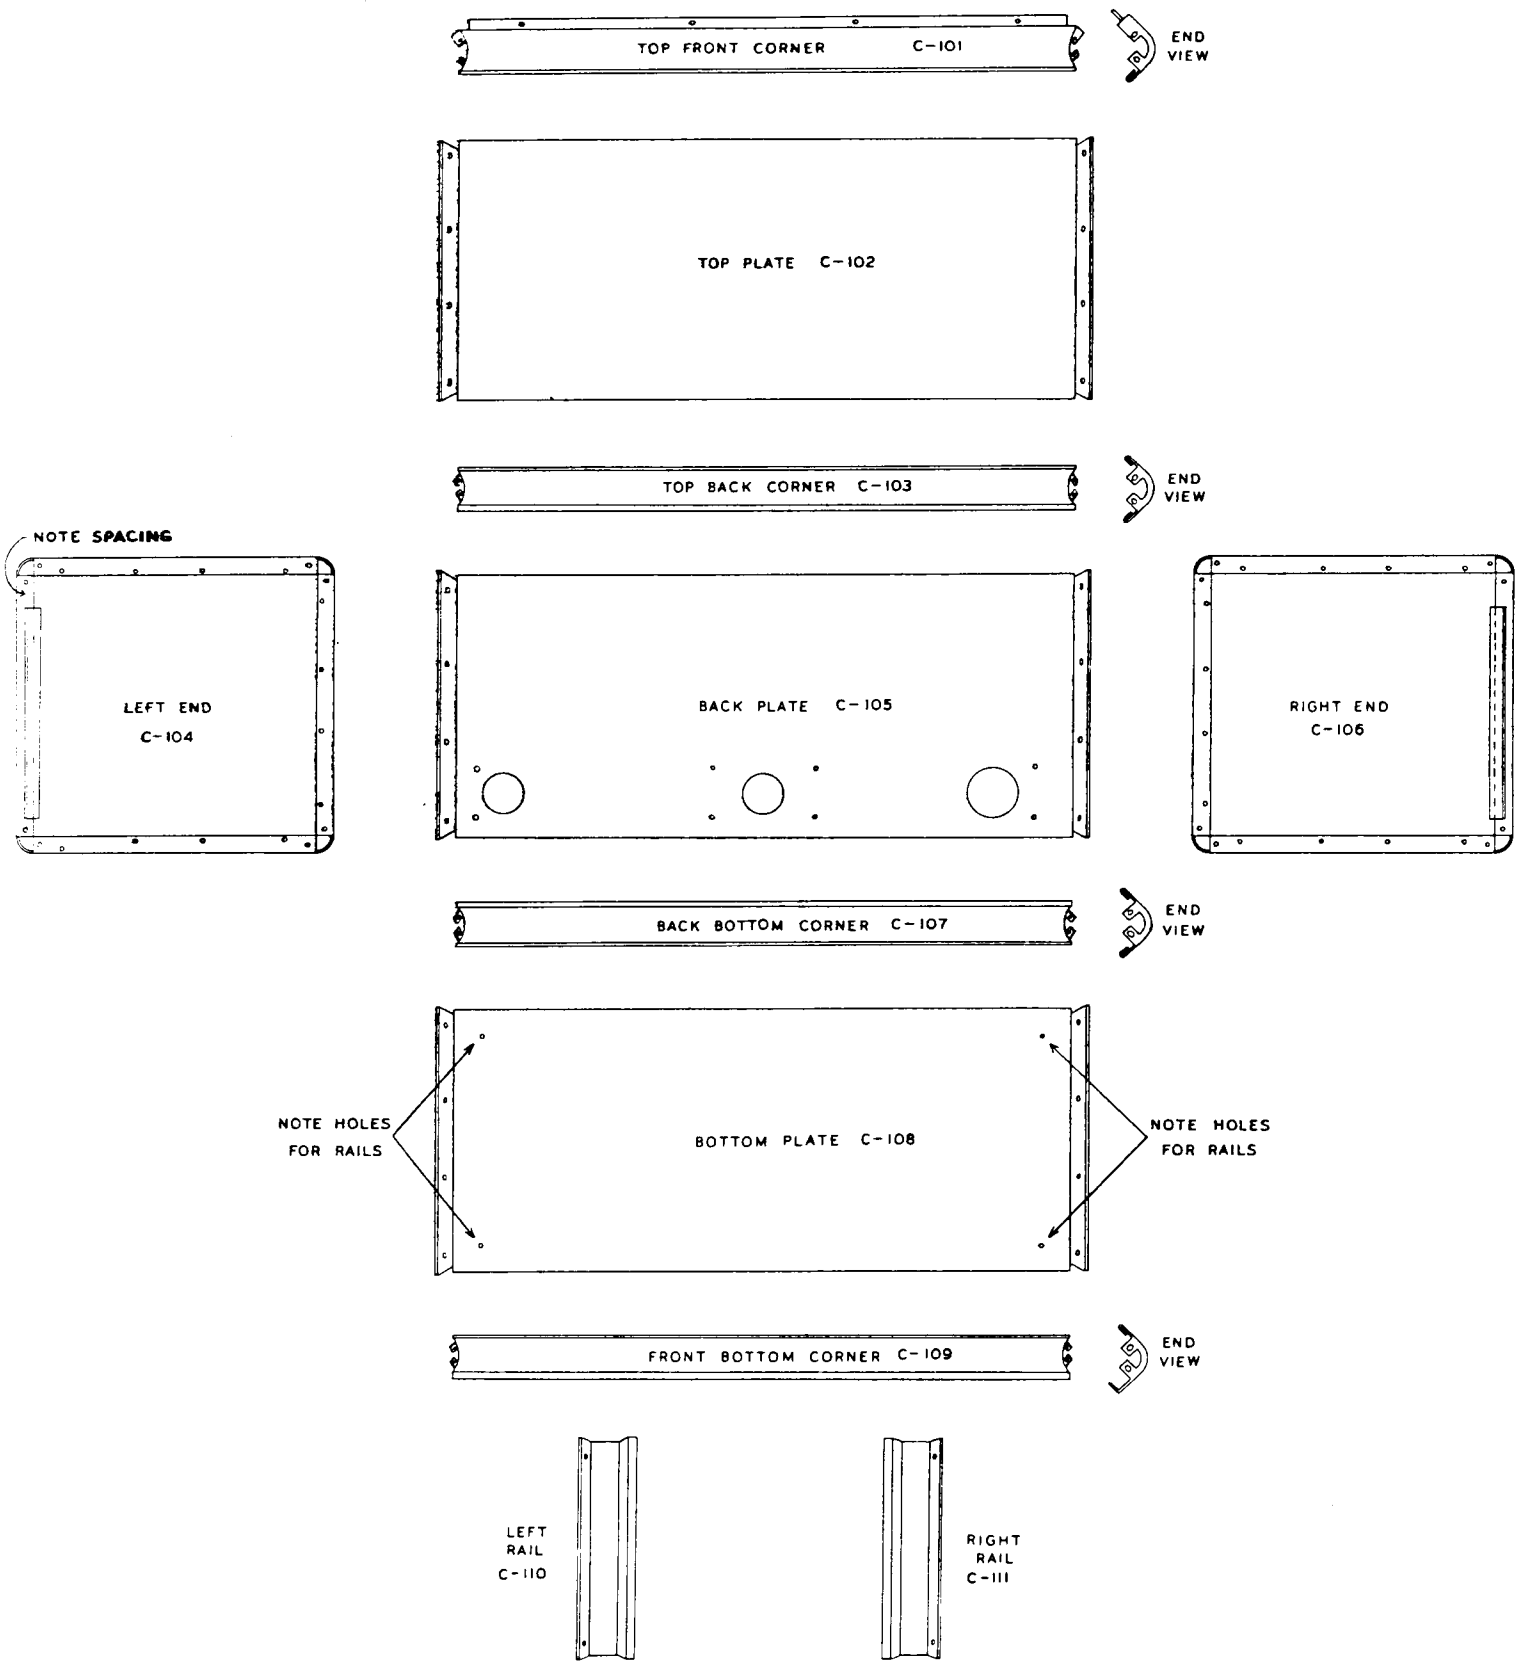
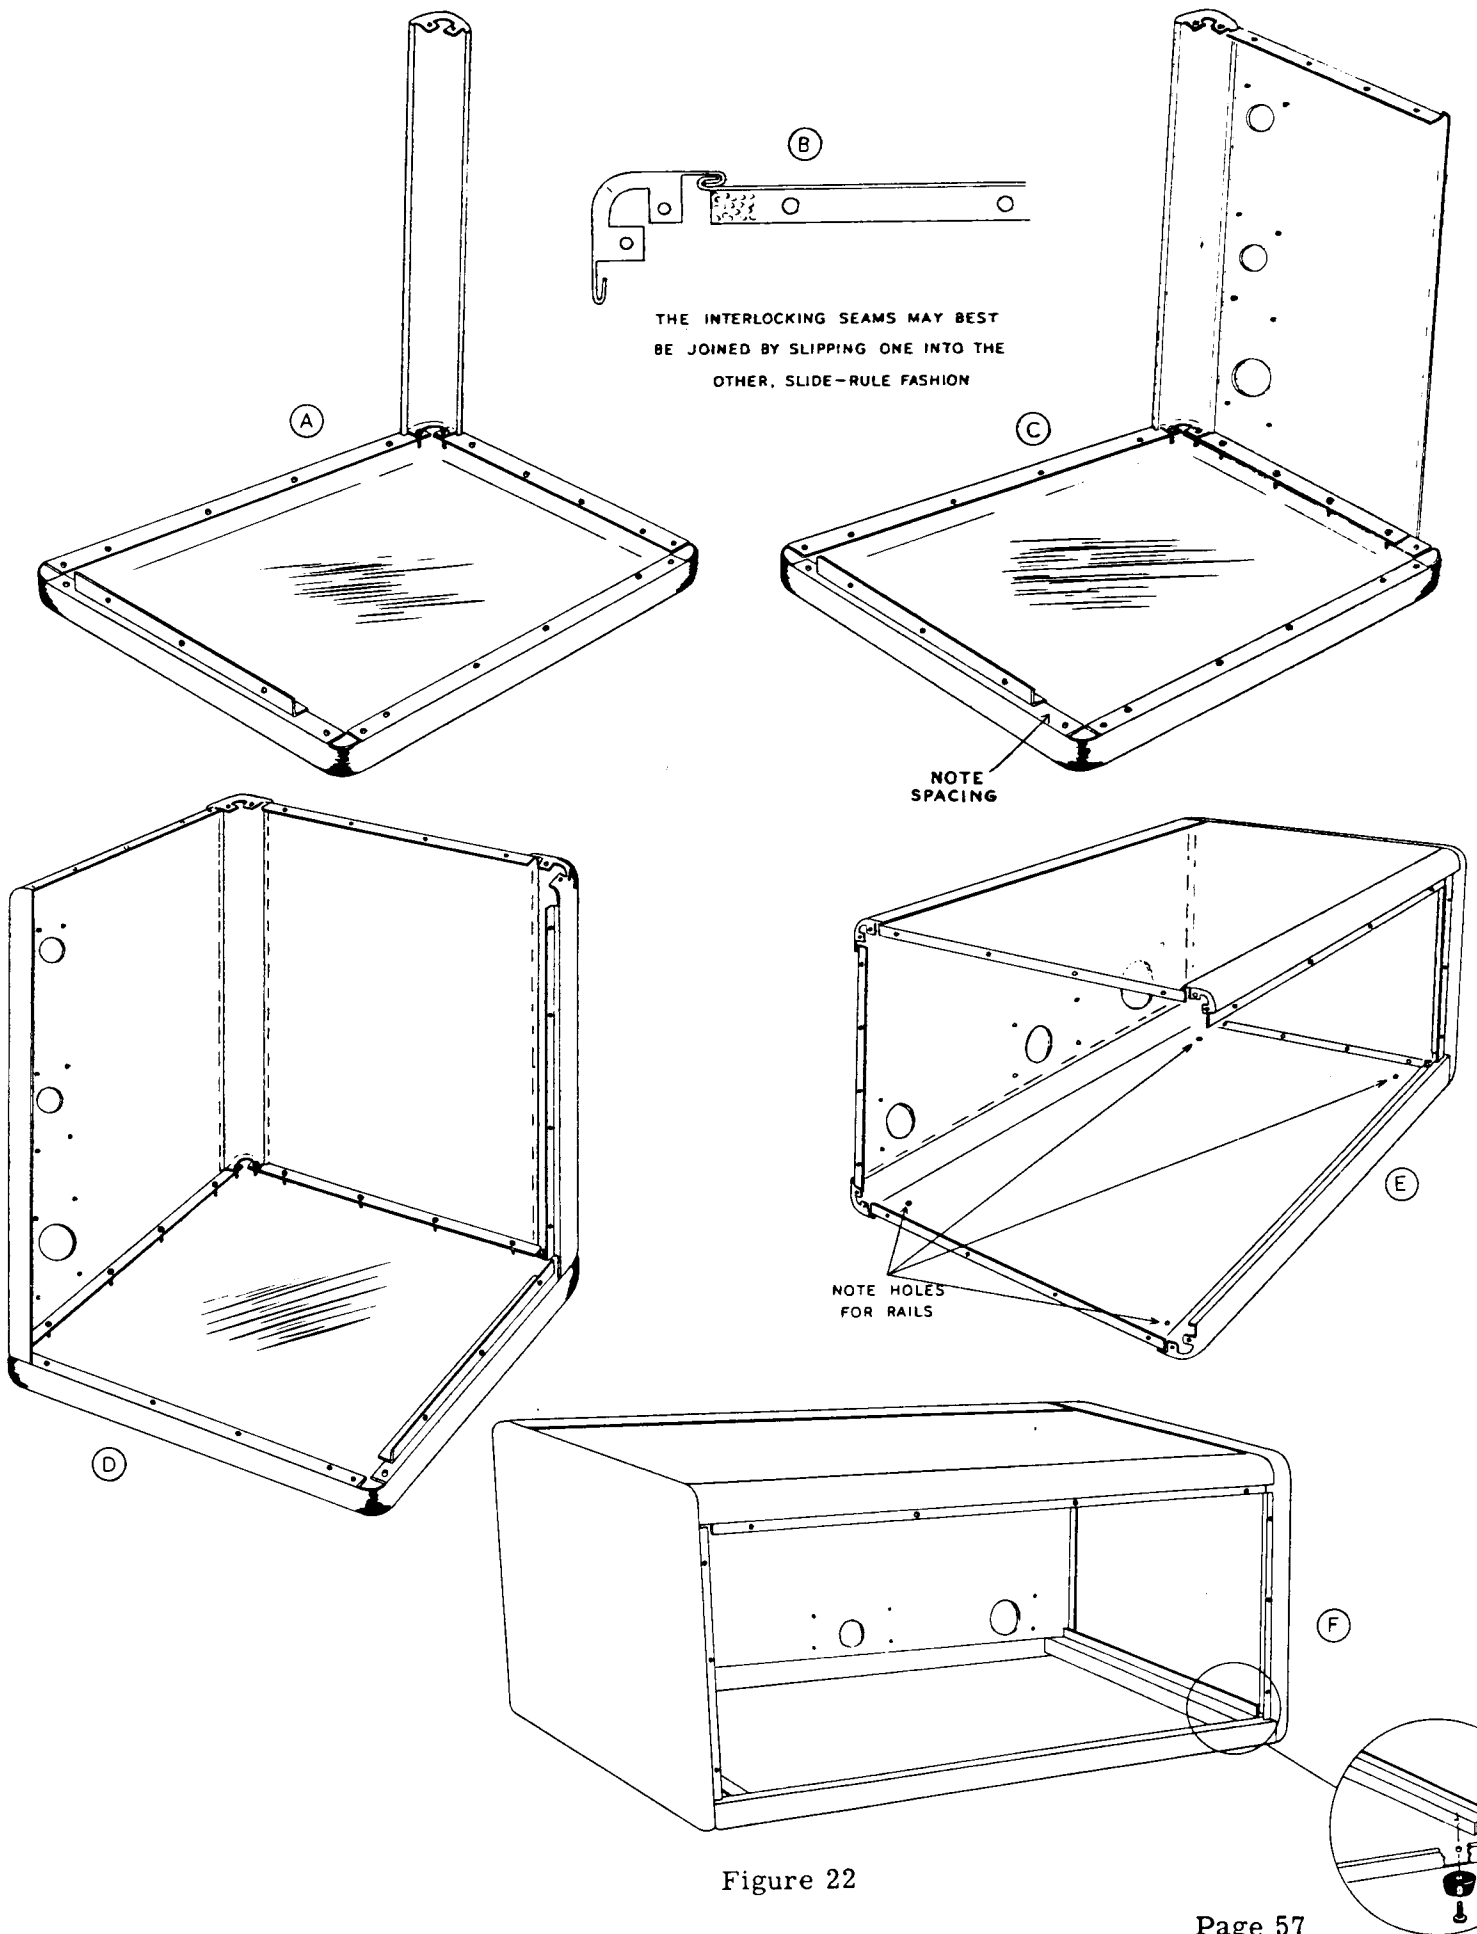

Figure 21
Figure 22
- () Refer to Figure 21 on Page 56 to identify the cabinet sections. Note the difference between the end bells as shown in the figure. Select the right end bell and place on the table with the front toward you as in Figure 22 shown in Page 57.
- () Figure 21 will reveal that the two back corners of the cabinet are the same. Select one of these corners and install as shown in Figure 22A. Use the blunt pointed sheet metal screws and speednuts to fasten these parts together.